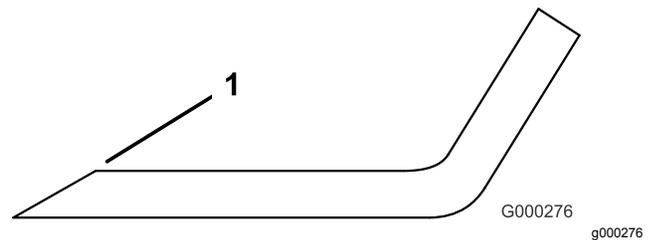

Figure 146
4. Sharpen the cutting edges if they are dull or nicked (Figure 146).